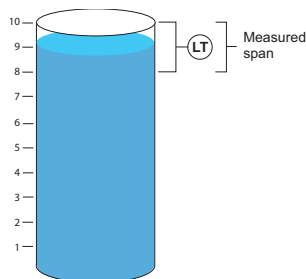

Figure 1.2.1: Level measurements
Level measurements are typically expressed in terms of feet or meters. Level may also be given in terms of percent full or percent of measured span. For example, the level of the vessel in Figure 1.2.1 could be expressed as 9 feet (2.7 m), 90% full, or 50% of measured span. Measured span is the distance between the lowest and the highest level that a level transmitter (LT) can measure in a particular application. In Figure 1.2.1, the measured span is from 8 - 10 feet (2.45 - 3 meters).